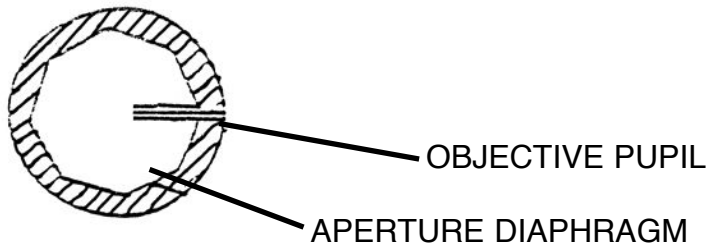
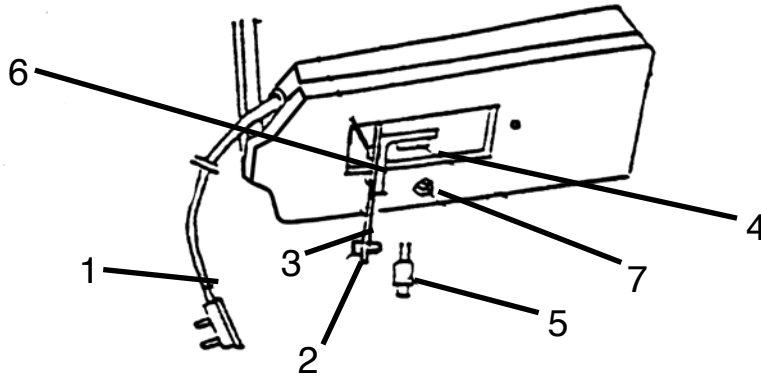

Fig. 11
Fig. 14
- (1) Pull out the plug of power electrical wire [1] and disconnect the power supply.
- (2) Incline microscope, loosen screw [2] of fixing lamp base board [3] on middle part of bottom, and remove lamp base board from bottom.
- (3) Pull out the old lamp from lamp base [4].
- (4) Insert new lamp [5] into lamp base properly, as shown in Fig. 11 direction, make it touch better.
- (5) Clean the new lamp with absolute alcohol.
- (6) Refix lamp base board on bottom with screw [2].
- (7) Mount the lamp well. Plug in power source. Turn 4x objective lens into path. Adjust condenser upwards and downwards and make light enter view of field. If light spot is offset the center of view, loose screw [6] slightly and move lamp base [4]. Make lamp spot into center, then tighten up the screw [6] to use immediately. (shown in Fig. 14)